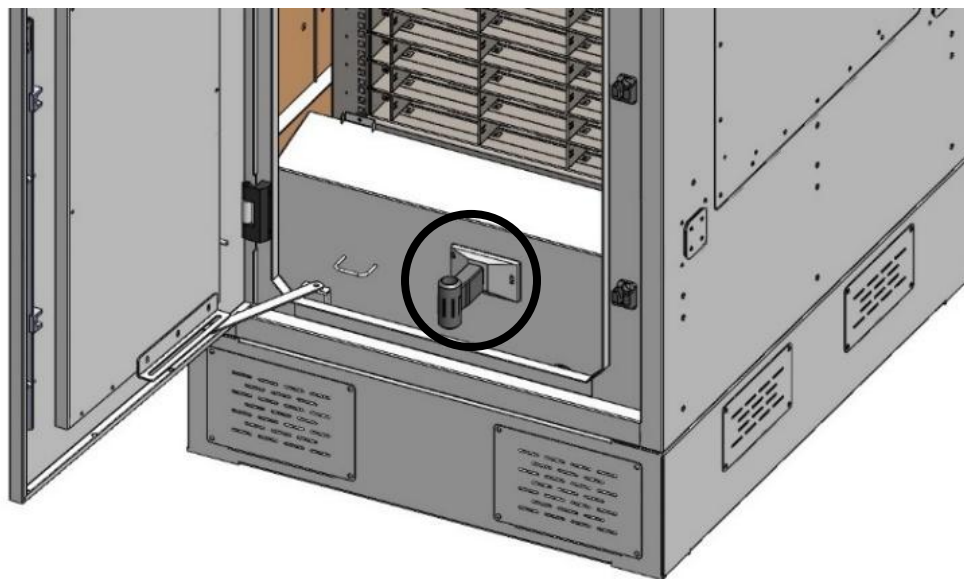

Figure 25 –Main Switch Handle slid onto the main switch
- b. Slide handle onto main switch switch (Figure 25).